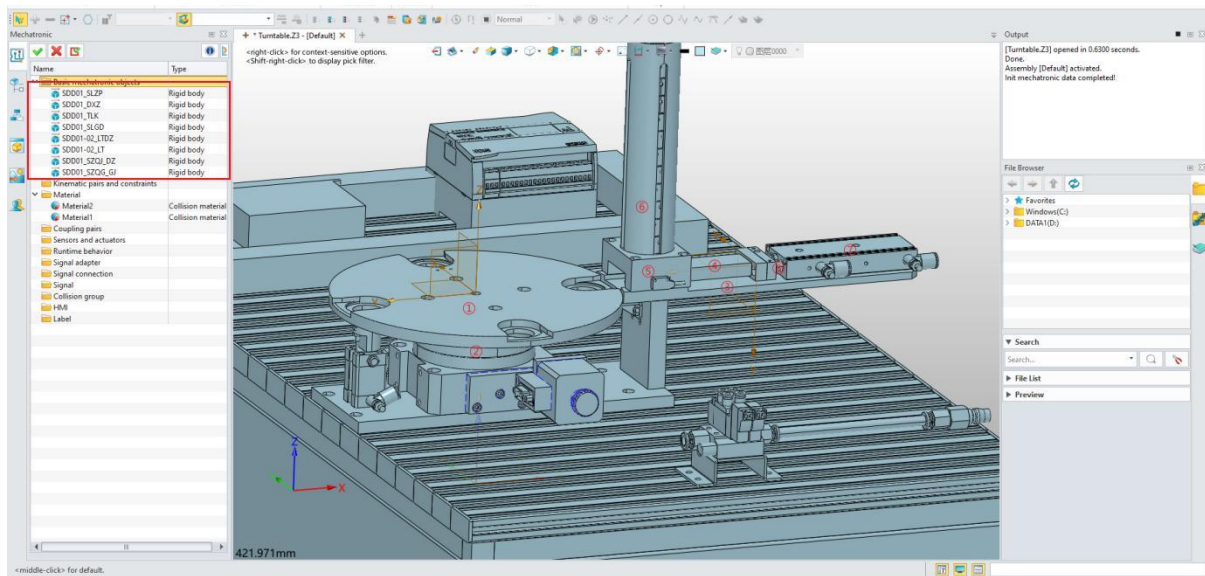

Figure 13-9: Add rigid body
- Use the "+" button to create eight rigid bodies corresponding to the main turntable components.(Figure 13-9)